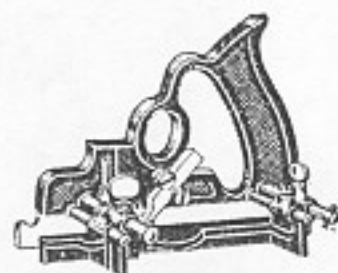

Fig. 188. Plow plane.
1. A groove can be planed with a special plane called a plow plane (Fig. 188). This plane resembles a rabbet plane and is fitted with depth and width gauges.